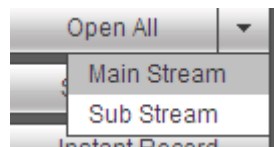

Figure 5-5
- Section 3: Open all. Open all button is to enable/disable all-channel real-time monitor. Here you can select main stream/sub stream too. See Figure 5-5.